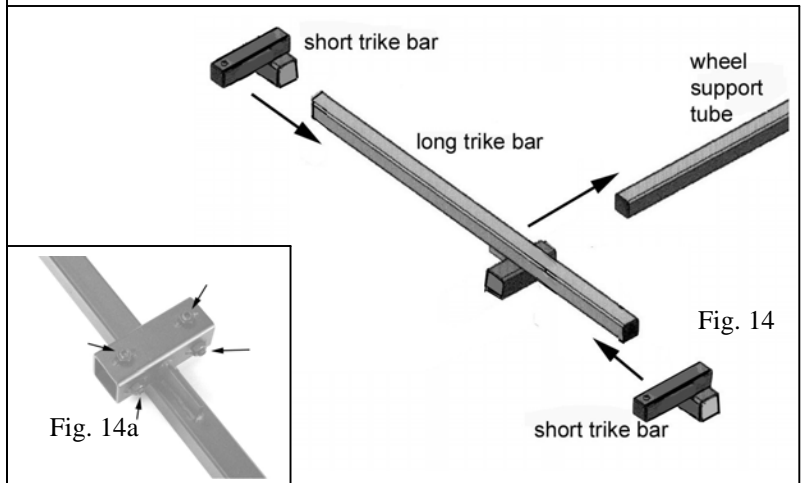

Fig. 14
- B.** Slide the long trike bar onto the passenger side of the rack as shown in fig.14. Snug up set screws (Fig. 14a) but do not tighten.
- C.** Slide short trike bars onto ends of the long trike bar tube as shown in fig. 14. Install wheel holders onto short trike bar as shown in Fig.15.
- D.** Slide wheel holders onto short trike bars as indicated in Fig. 14 and Fig. 15. Tighten knob securely.